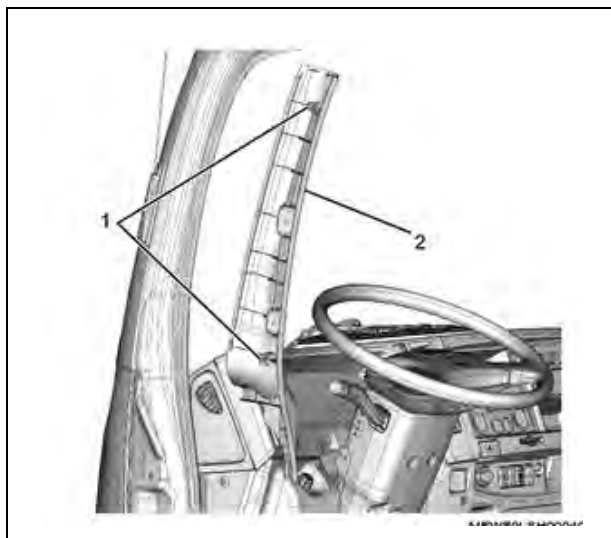

Figure 47
51. Pull the front door weatherstrip away from the front pillar trim cover. Then pull the front pillar trim cover up and remove it from the front pillar. (See Figure 47.)